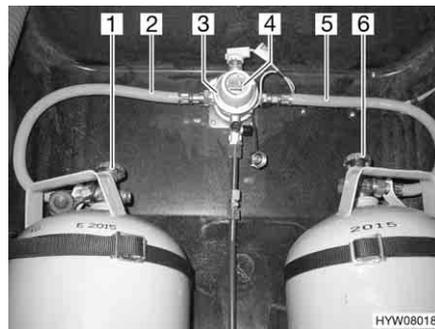
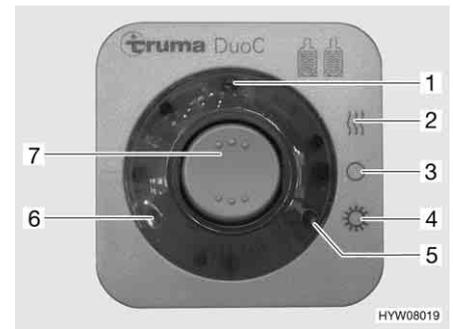

Fig. 103 DuoControl switching facility
Fig. 104 Operating unit
The DuoControl switching facility consists of a reversing valve (Fig. 103,3) and an operating unit (Fig. 104). The reversing valve is installed between the gas tubes (Fig. 103,2 and 5). The knob (Fig. 103,4) on the reversing valve is used to select which of the gas bottles is to be used as a primary bottle and which is to be used as a reserve bottle.
Only the electrical functions can be switched at the operating unit (Fig. 104). The regulator taps on the gas bottles (Fig. 103,1 and 6) must be opened manually.
The reversing valve provides a constant gas pressure, regardless of which gas bottle is being drawn upon. The two indicator lamps on the operating unit indicate the level of the primary bottle. When the green indicator lamp (Fig. 104,6) illuminates, the primary bottle is full. When the red indicator lamp (Fig. 104,5) illuminates, the primary bottle is empty. In this case, the reserve bottle is used for the gas supply.
- Open the regulator taps on the gas bottles (Fig. 103,1 and 6).
- Use the knob (Fig. 103,4) on the reversing valve (Fig. 103,3) to select the gas bottle which is to be the primary source of gas (primary bottle). Always turn the knob as far as it will go.
- Switch on the DuoControl switching facility at the operating unit (Fig. 104). To do so, set the rocker switch (Fig. 104,7) to winter operation "On and heating" (Fig. 104,2) or to summer operation "On" (Fig. 104,4). The reversing valve is now deaerated. The yellow indicator lamp (Fig. 104,1) illuminates if the winter operation has been selected and the regulator defroster is activated.
- Set the rocker switch (Fig. 104,7) to "O" (Fig. 104,3). The yellow indicator lamp (Fig. 104,1) goes out.
- Close the regulator taps on the gas bottles (Fig. 103,1 and 6).
**Remote display** The indicator lamps on the operating unit (Fig. 104,5 and 6) indicate in the vehicle interior whether the primary bottle is ready for operation.
**Changing gas bottles** If the green indicator lamp (Fig. 104,6) stops illuminating during operation and the red indicator lamp (Fig. 104,5) illuminates, the gas bottle selected as primary bottle is empty and needs to be changed. The reserve bottle continues supplying the gas appliances with gas.